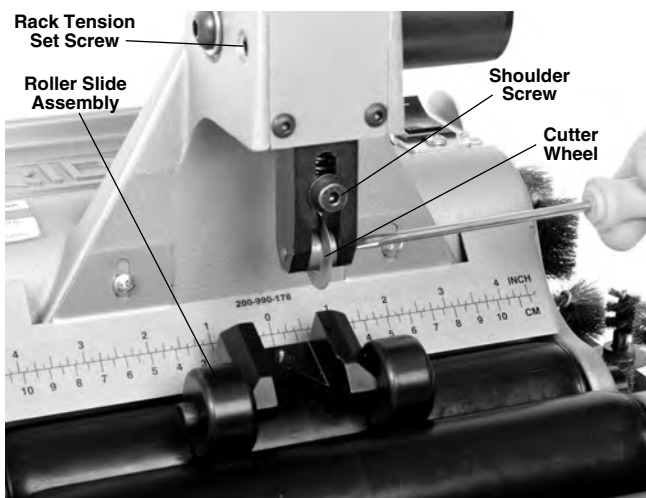

Figure 15 – Remove Cutter Wheel Screw
Use a $\frac{5}{32}$ " hex key to tighten or loosen rack tension set screw (Figure 15) as desired. Typically it is set just tight enough to prevent rack movement under its own weight.
1. Loosen the shoulder bolt and remove the roller and slide assembly (Figure 15). Do not remove the shoulder bolt, this keeps the tension spring in place.
2. Remove cutter wheel screw and replace the cutter wheel (Figure 15). See Accessories section for available cutter wheels.